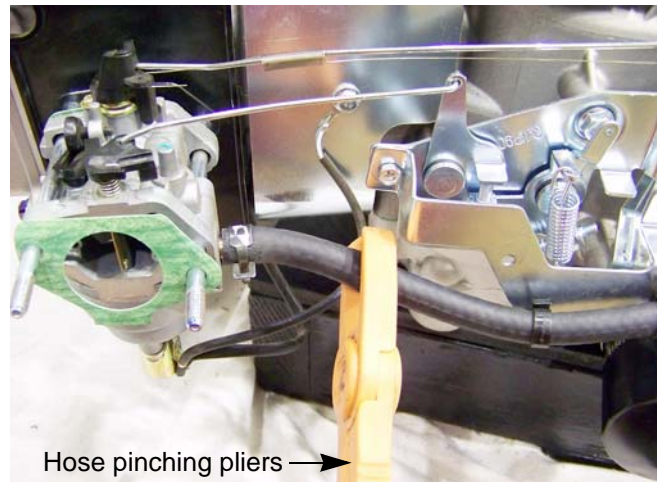

Figure 3.9
4. Clamp off the fuel line to prevent fuel from leaking when the line is disconnected. See Figure 3.9.